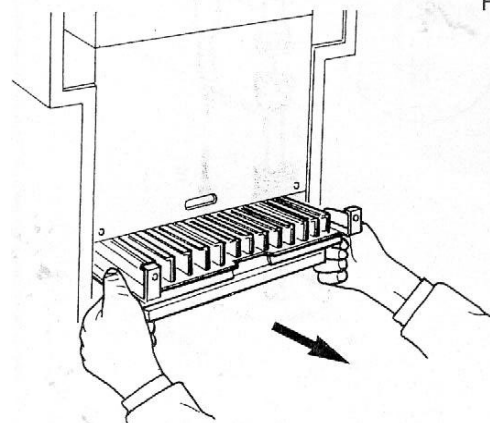

Fig. 75
**7.15.6** Pull the burner forward and remove (Fig. 75).